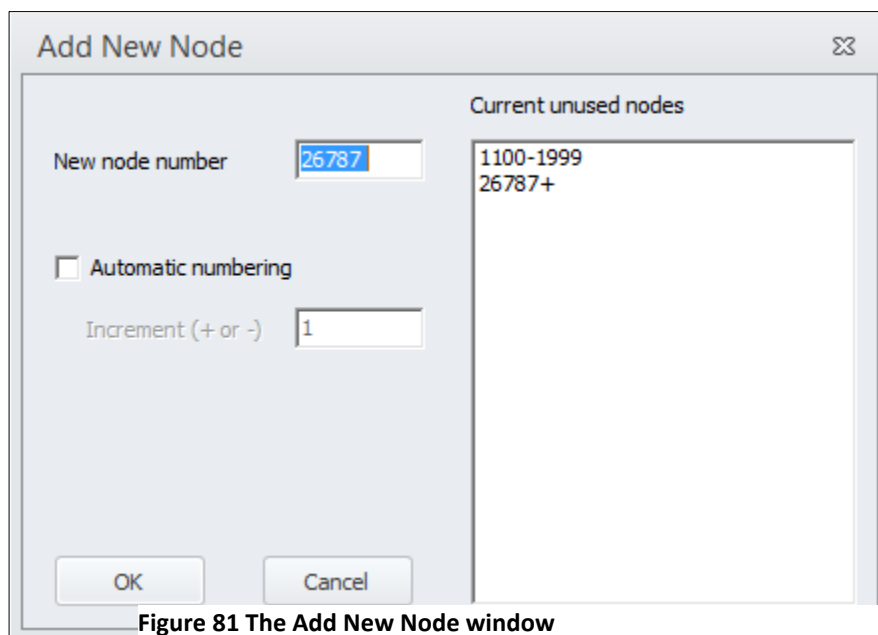

Figure 81 The Add New Node window
- 10) Click "Yes" and then select a node value greater than 2000 (values up to 1999 are only for terminals and zones), see Figure 81.